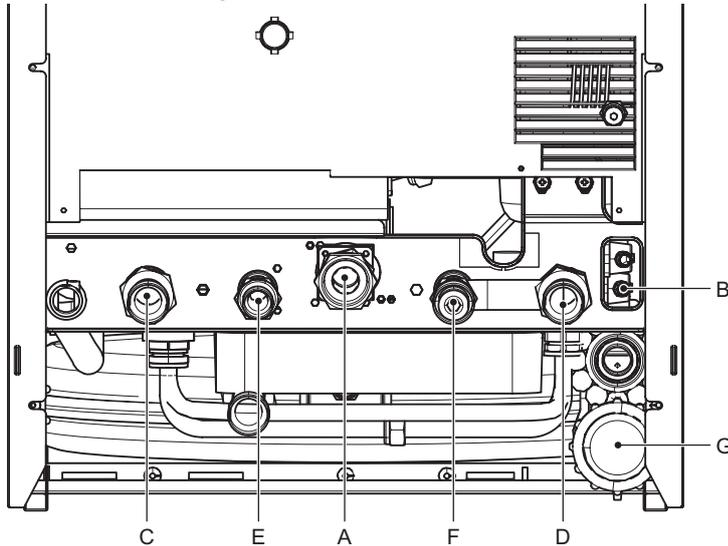

Figure 10.1
The Riva Advance Combi is supplied with a 3/4" stainless steel gas pipe (A in figure 10.1), 2 - 3/4" copper pipe (C, D in figure 10.1), 2 - 1/2" (F, G in figure 10.1) located in a plastic bag in the boiler package.
- Remove the protective caps off boiler connections (Figure 10.1).
- Attach the supplied components to the boiler connections (see Figures 10.1). Be sure to use the proper gaskets for the pipe connections.